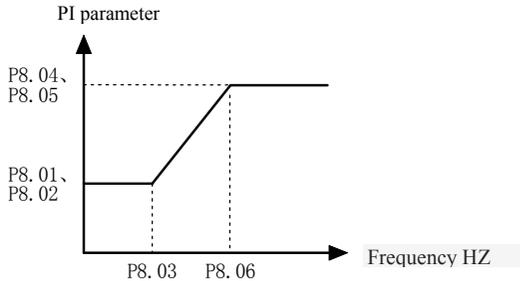

Figure 5-8-1 PI parameters schematic diagram
- ◆ The P8.01 and P8.02 are PI adjustment parameters when the operation frequency is less than the switching frequency 1 (P8.03). P8.04 and P8.05 are PI adjustment parameters when the operation frequency is greater than the switching frequency 2 (P8.06). PI parameter between the switching frequency 1 and the switching frequency 2 is linear with switching of the two groups of PI parameters, as shown in Figure 5-8-1.